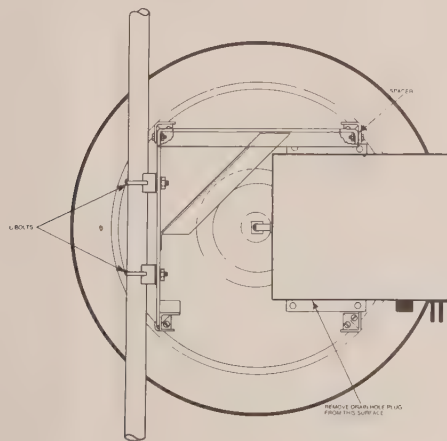

Figure 3-18. Horizontal Polarization - Mount for Elevation Tilt -15° to +24° Range or -4° to +30° Range
1. If greater uptilt than downtilt is required, mount the assembly with the pole to the left of the antenna center (reference Table 3-3 and Figures 3-18 and 3-23).